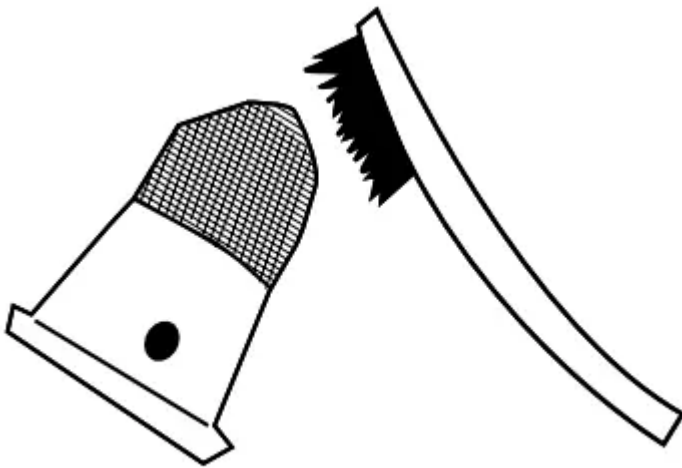

Figure 16: Clean spark arrestor
6. If screen is not torn then clean using a wire brush, commercial solvent, or compressed air. Remove any dirt and debris that may have collected on the spark arrestor screen (see Figure 16).